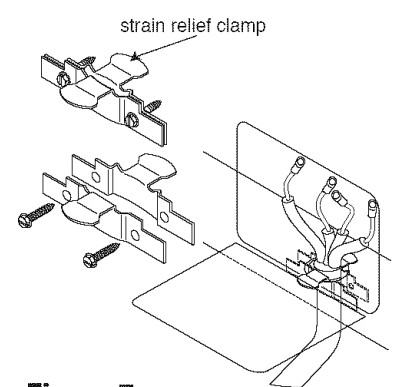

Figure 7
- 1 Follow the power supply cord kit manufacturer's Installation Instructions and install the strain relief clamp on the cord. See Figure 7.
- 1 Follow the power supply cord kit manufacturer's Installation Instructions and install the strain relief clamp. See Figure 7.